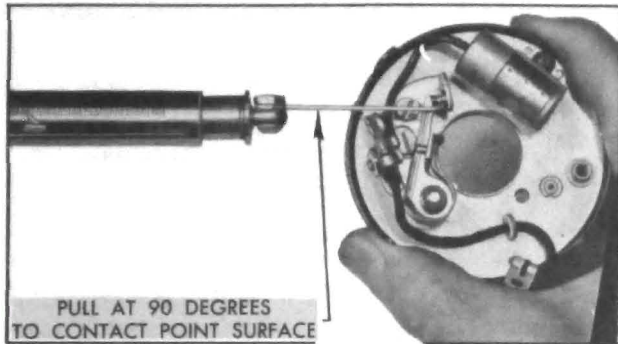

Figure 10-56—Checking Breaker Arm Spring Tension
11. Attach hook of spring scale to breaker arm at side of contact point and check the tension required to just separate the points, with pull exerted at an angle of 90° with the point surface. See figure 10-56. Tension must be 19 to 23 ounces.